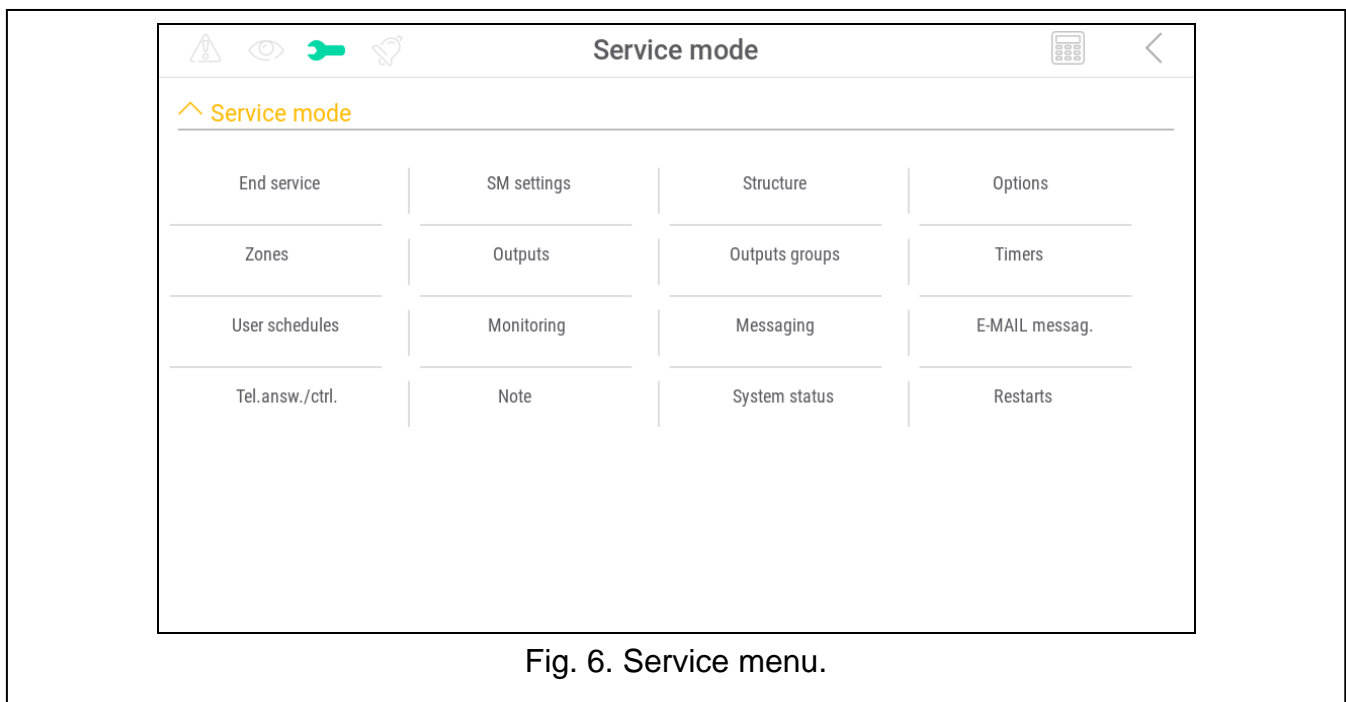

Fig. 6. Service menu.
5. Tap the “Service mode” function. The service menu will be displayed (Fig. 6).